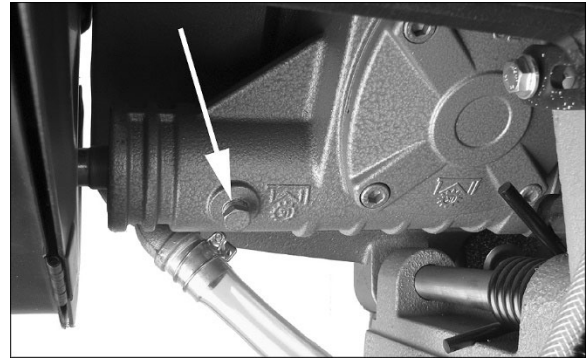

Figure 11-1: gear box drain
3. Unscrew drain plug (Figure 11-1), and allow oil to drain completely. Follow local regulations for proper disposal of used oil.